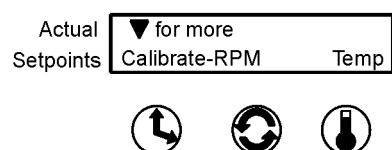

**Figure 4-12.** Adjustment
2. Remove the screws from the sides of the handle, as indicated in Figure 4-12. Remove the handle.